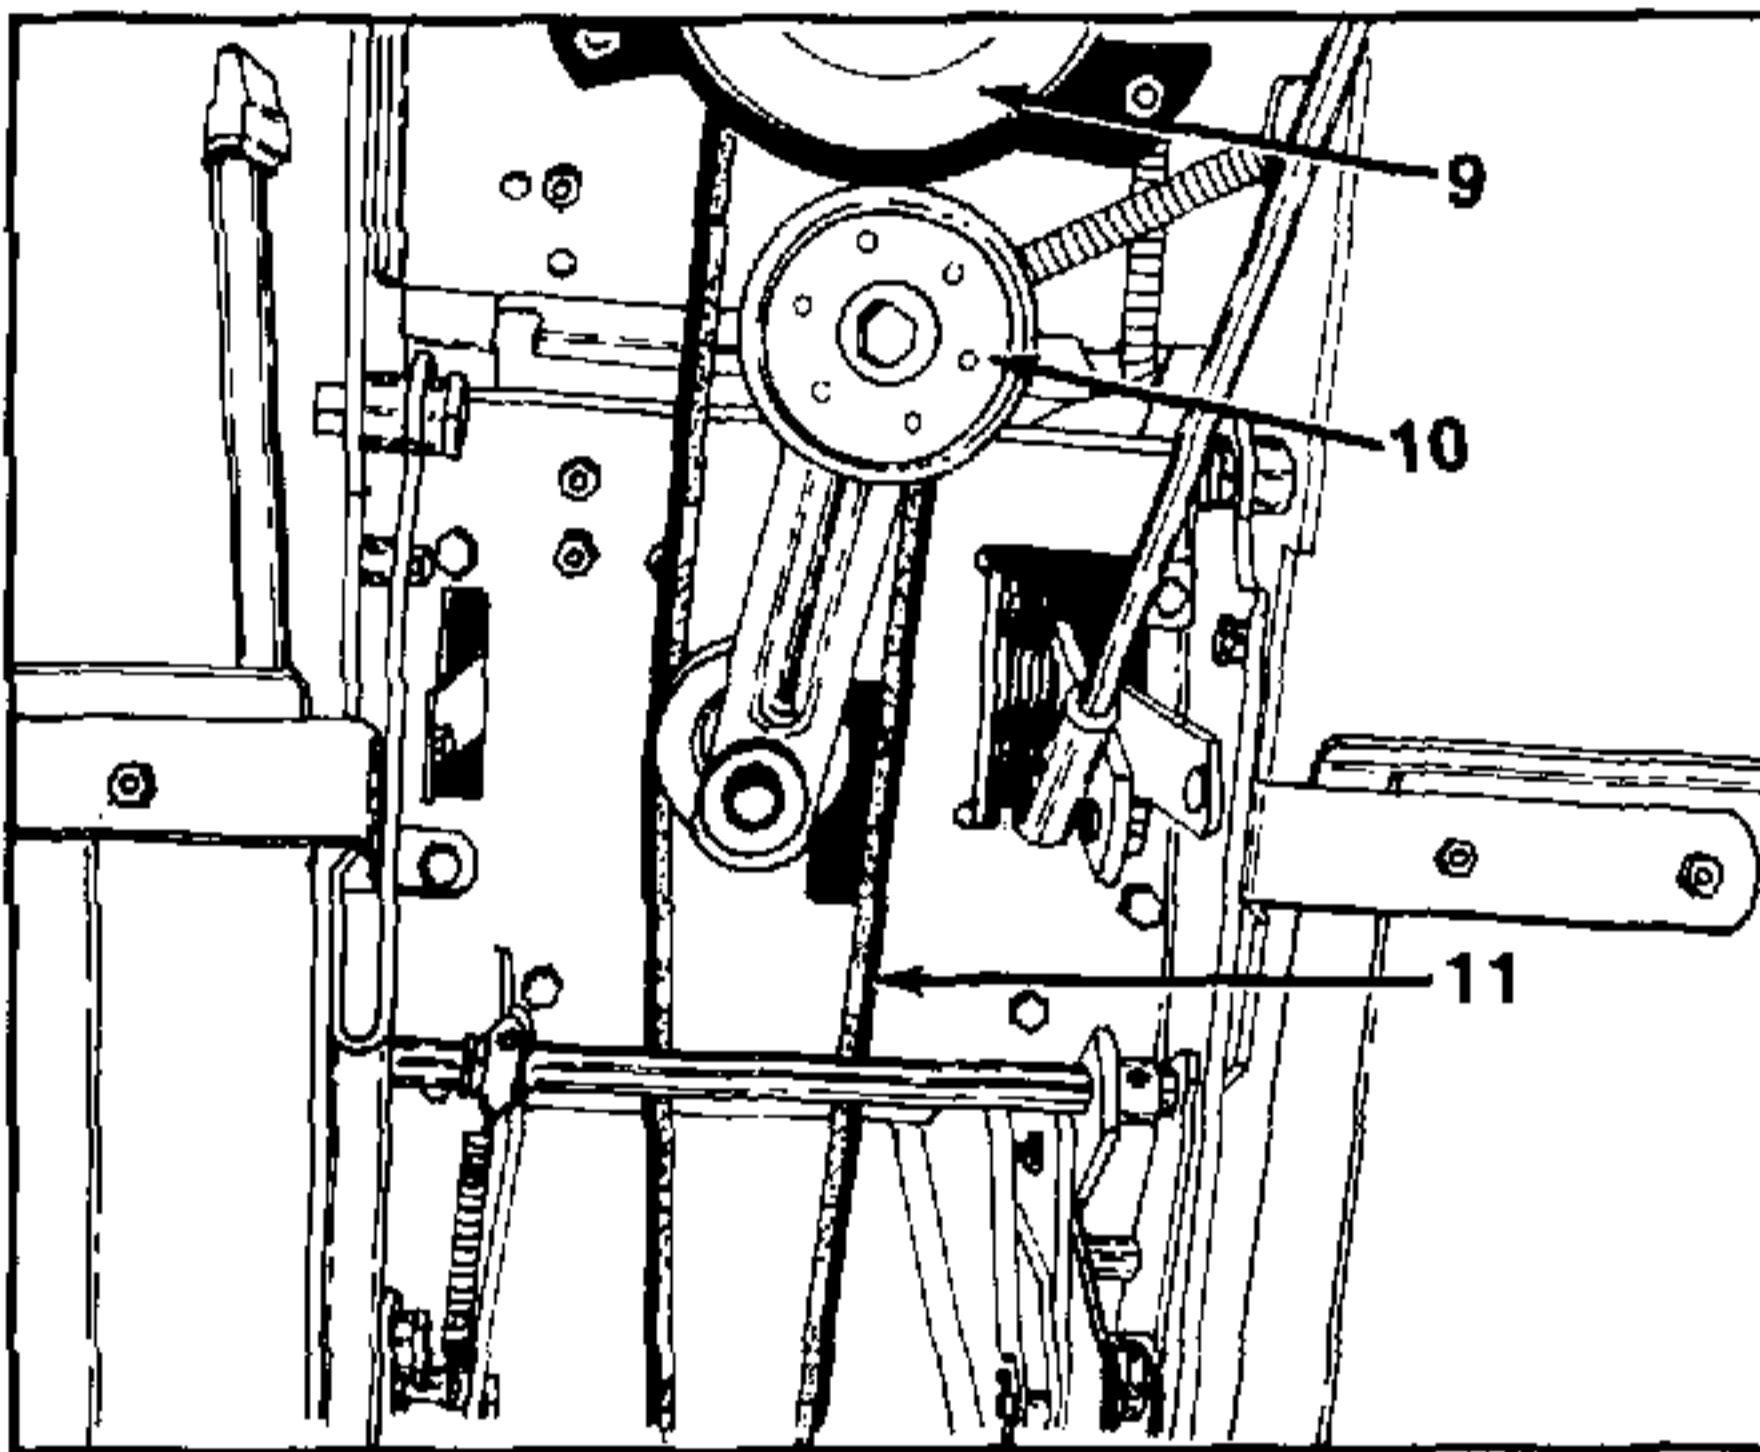

FIGURE 4.
2. Bring the belt around the spring loaded idler. See figure 4.